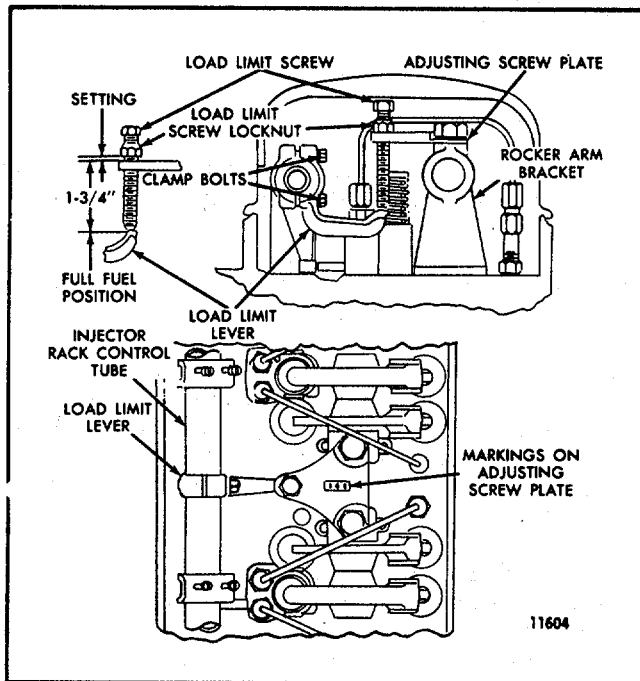

FIG. 1 - Engine Load Limit Device
horsepower at 100 rpm below rated engine speed with the *Belleville* springs loose as shown in Fig. 1.
2. Position the Belleville spring retainer to provide approximately .060" clearance between the Belleville washers and the retainer when the engine is not running (Fig.1).
Engines with mechanical governors may be equipped with a load limit device (Fig. 1) to reduce the maximum horsepower.
Fig. 1. Make sure the counterbores in the adjusting screw plates are up. The rocker arm shaft bracket bolts which fasten the adjusting screw plate to the brackets are tightened to 75-85 lb-ft (102-115 Nm) torque (all other rocker arm shaft bracket bolts are tightened to 90-100 lb-ft or 122-136 Nm torque). Then adjust the load limit device, on each cylinder head, as follows:
3. With the screw out of the plate, adjust the load limit screw lock nut so the bottom of the lock nut is 1 3/4 "1 from the bottom of the load limit screw (Fig. 1) for the initial setting.